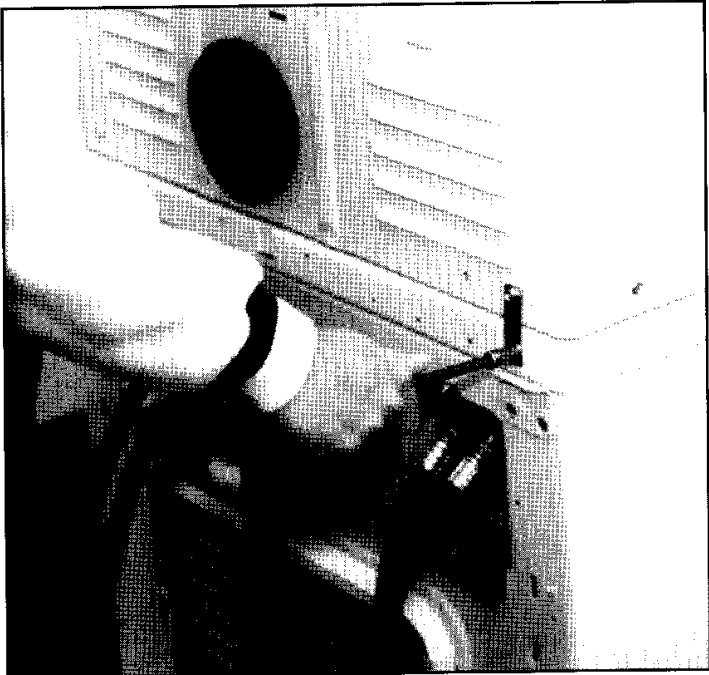

Figure 56
Secure the other ends of the security brackets (2) to the support using #10 hex head screws provided in the miscellaneous parts package. (See figure 56.)